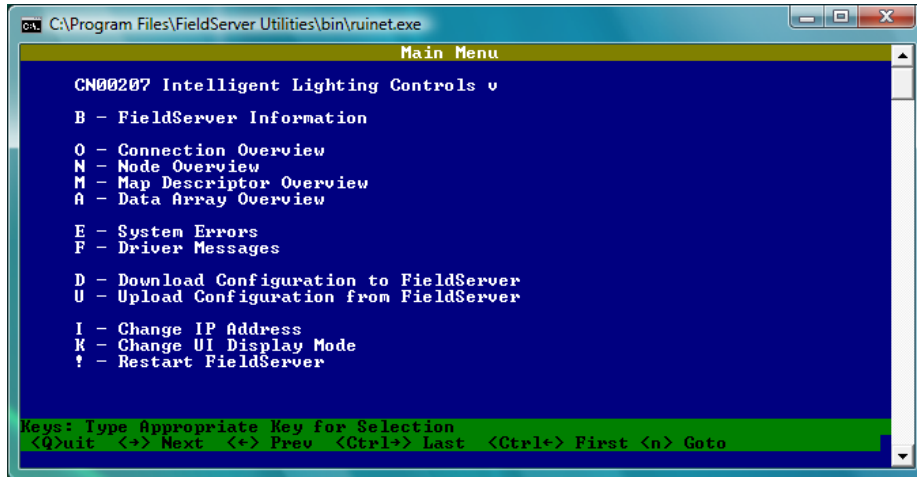

Figure 2 Main Screen
4. Start the FieldServer Utility program (ruinet.exe) and connect to the BACnet IP module. Figure 2 shows the main menu screen of this utility. From this screen you can upload the configuration file to adjust the device address or change the IP address.